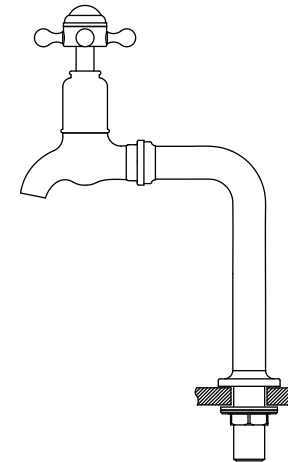

Fig. 2
- Use the washers and backnuts provided to install the taps into the bib as shown in Fig. 2;